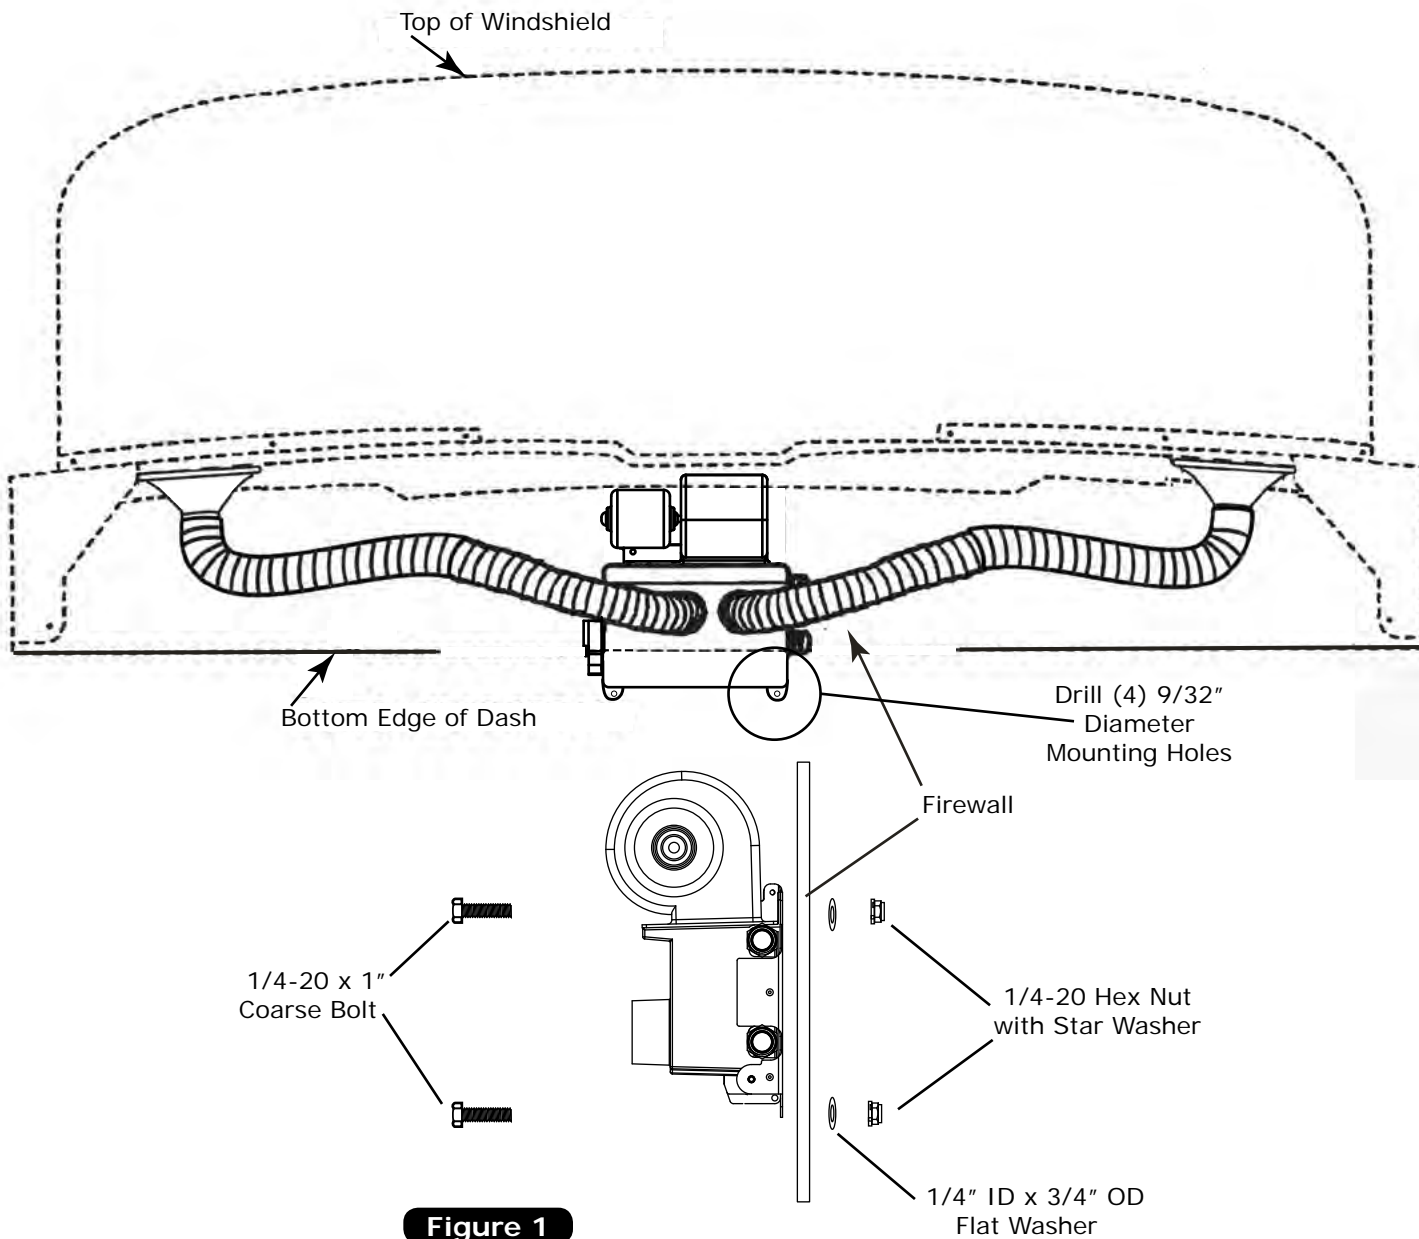

Figure 1
1. Use heater unit as a template and drill (4) 9/32" diameter mounting holes as shown in Figure 1, below.